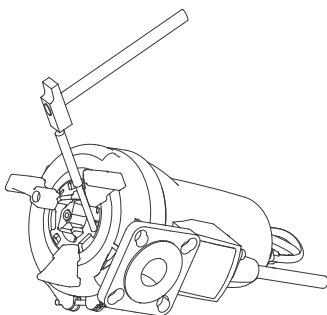

Fig. 13 Removing the grinder ring
3. Remove the screw (188a) from the pump feet (M).
4. Loosen the grinder ring (44) by knocking it clockwise with punch. See fig. 13.